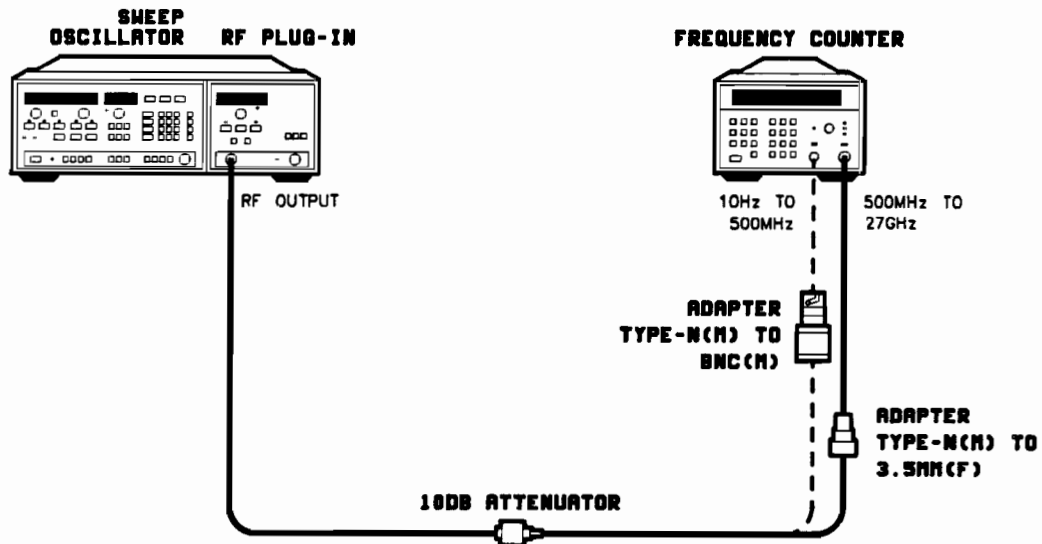

Figure 4-3. Frequency Change with 10 dB Power Level Change Test Setup
1. Connect the equipment as shown in Figure 4-3. Turn the equipment on and press [INSTR PRE-SET] on the sweep oscillator/RF plug-in. Allow one hour warm-up.